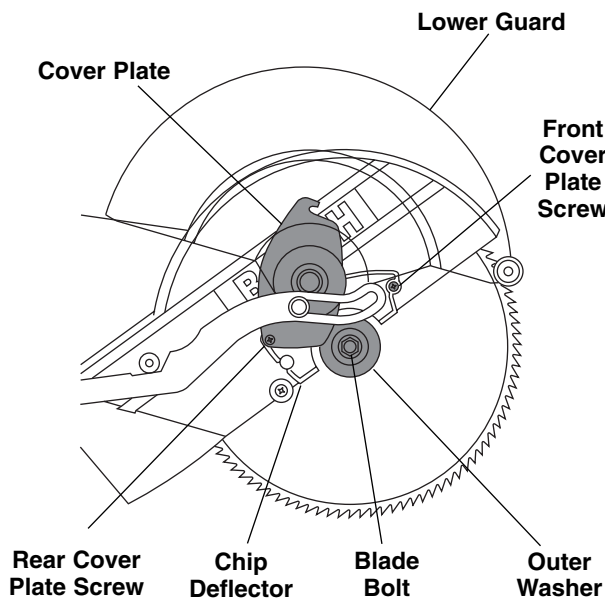

Figure 1. Blade Removal
2. Rotate the lower guard by hand. Loosen front cover screw to a point that cover plate can be lifted (Figure 1).
3. Rotate the cover plate counterclockwise so the blade bolt is exposed (Figure 1).